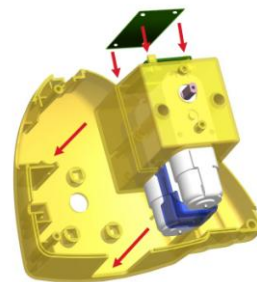

Fig. 2
1. Attach the circuit board (11) on the top of the gearbox (4) and install the gearbox to the right body part (3). (Fig. 2)